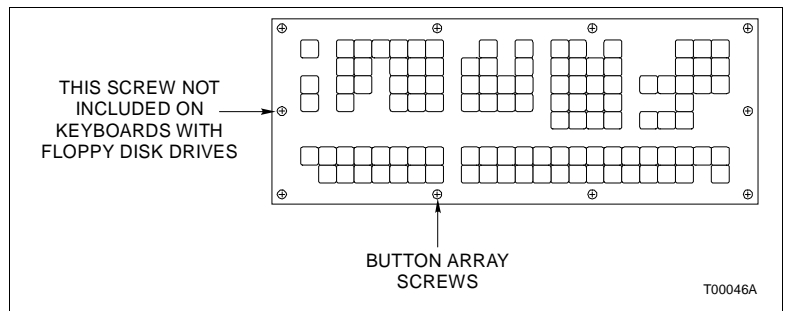

Figure PR59-1. Keyboard Button Array
2. Use the Phillips head screwdriver to remove the nine (for keyboards with a floppy disk drive) or ten (for keyboards without a floppy disk drive) button array screws that secure the keyboard button array to the keyboard base (Fig. PR59-1).